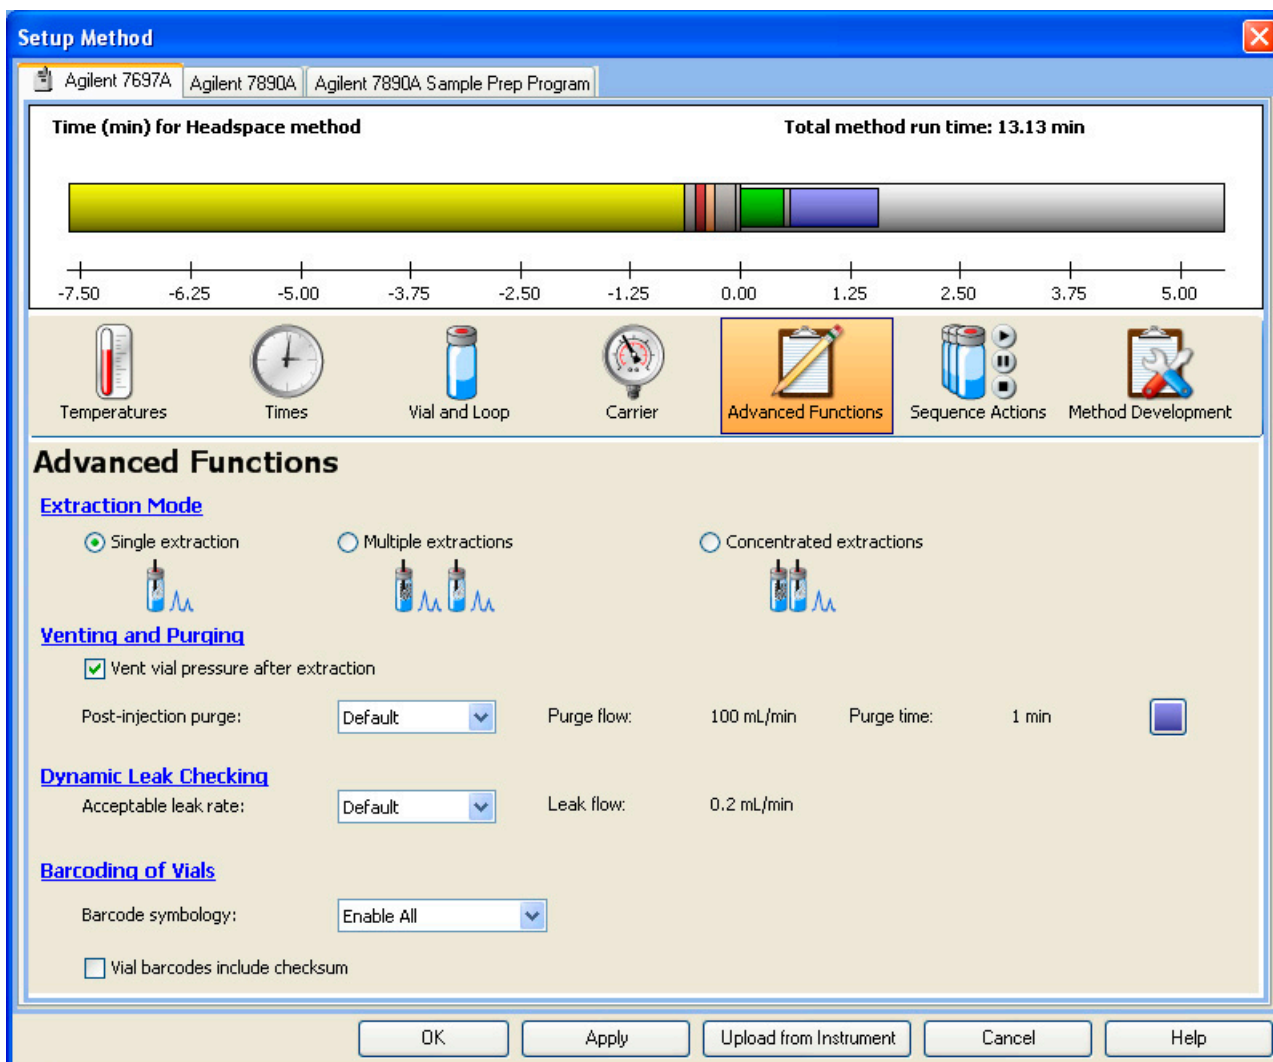

**Figure 18** Setting the advanced functions
- 7 Select the **Advanced Functions** icon and set the parameters shown in Figure 18.
The bar code reader settings shown in Figure 18 only appear if your HS has a bar code reader installed.